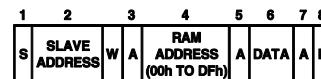

Figure 41. Single Byte Write To RAM
1. Write a single byte of data to RAM. In this case the command byte is the RAM address from 00h to DFh and the (only) data byte is the actual data. This is illustrated in Figure 41